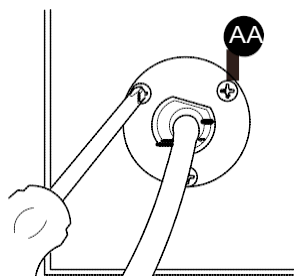

Figure 2 - Installing Power Cord
2. Attach the power cord to the fireplace top cover with 3) M4.2X8 screws (AA) (see Figure 2).